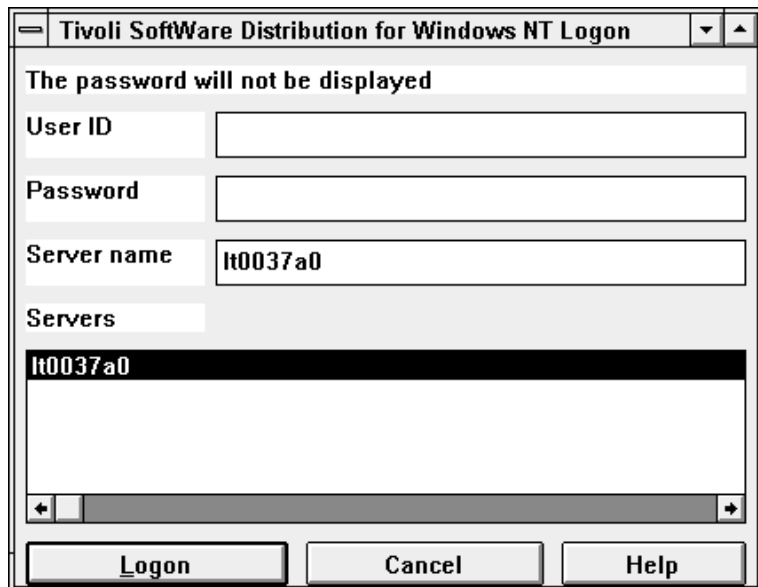

Figure 6. Logging on to TME 10 Software Distribution
2. Select the **OK** push button to continue (If you do not select it, the Logo window will disappear after 10 seconds.). The TME 10 Software Distribution Logon window appears, as shown in Figure 6.